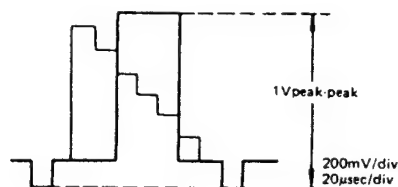

Figure 2-9
2. Apply a colour bar signal (stair-step waveform) to the unit. Observe the output at both ends of 75 ohm resistor with an oscilloscope (external trigger, TP2204) and adjust R253 (E-E level control) so that the output waveform is as shown in Fig. 2-9.